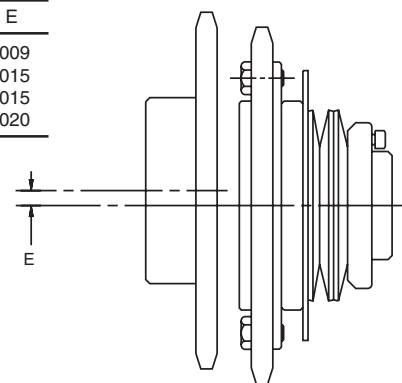

Figure 3
- A. Angular misalignment should be held within 0.5 degrees. To indicate measure dimension "C" along outside edge of sprocket in at least three locations (Figure 3).